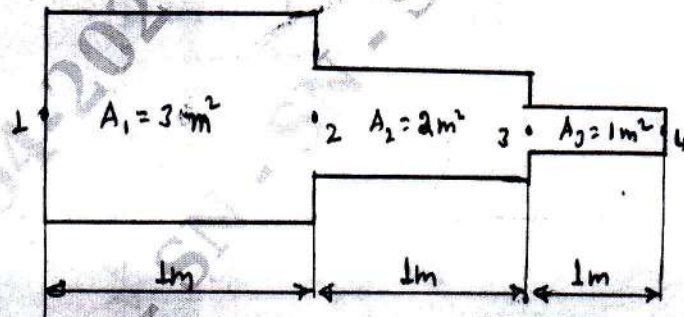

Fig Q8
- 8 For smooth pipe of variable c/s shown in Fig Q8. Determine potential at junctions, Velocities in each section of pipe and volumetric flow rate. Potential at left end $P_1 = 10\text{m}^2/\text{s}$, right end $P_4 = 1\text{m}^2/\text{sec}$, fluid flow through pipe $K_x = 1$.